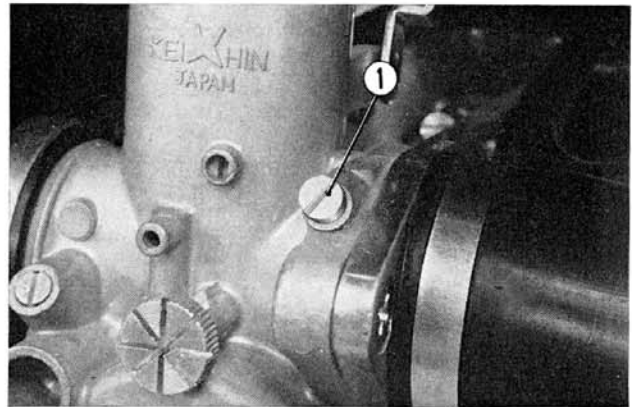

Fig. 6-16 ① plug
② Throttle stop screw
a. Stop the engine and remove the plug of adapter attachment hole on each carburetor bodies. Attach the adapters of vacuum gauge to all carburetors: the long adapters A are for inside carburetors and the short ones for outside carburetors. Fit the vacuum gauge hose securely on the adapters. (Fig. 6-16, 17)